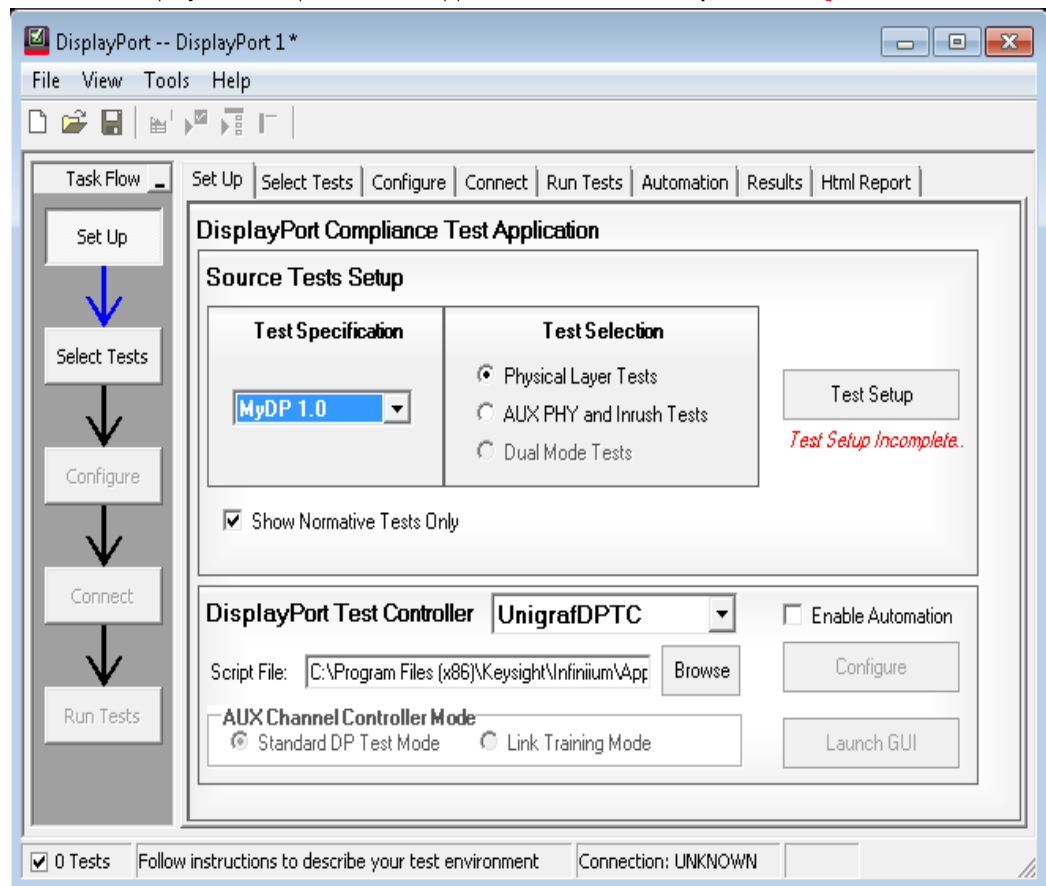

Figure 118 Set Up tab on the DisplayPort Compliance Test App
- 3 On the DisplayPort Compliance Test Application, click the **Set Up** tab (see Figure 118).